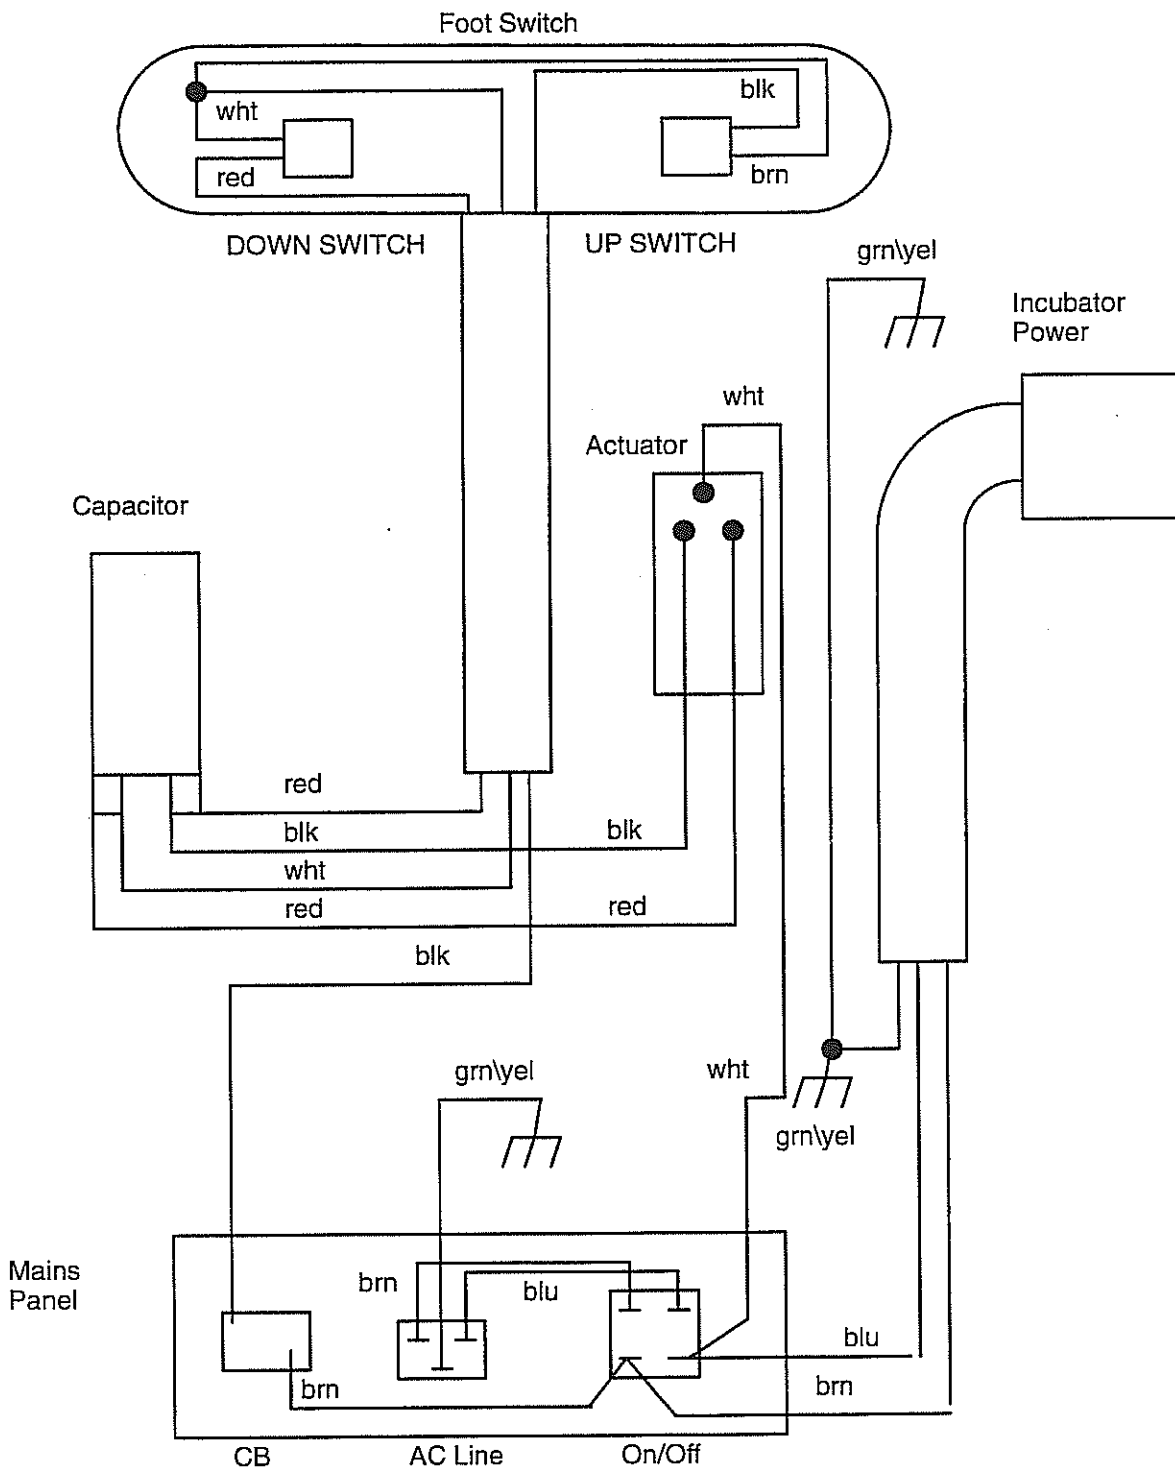
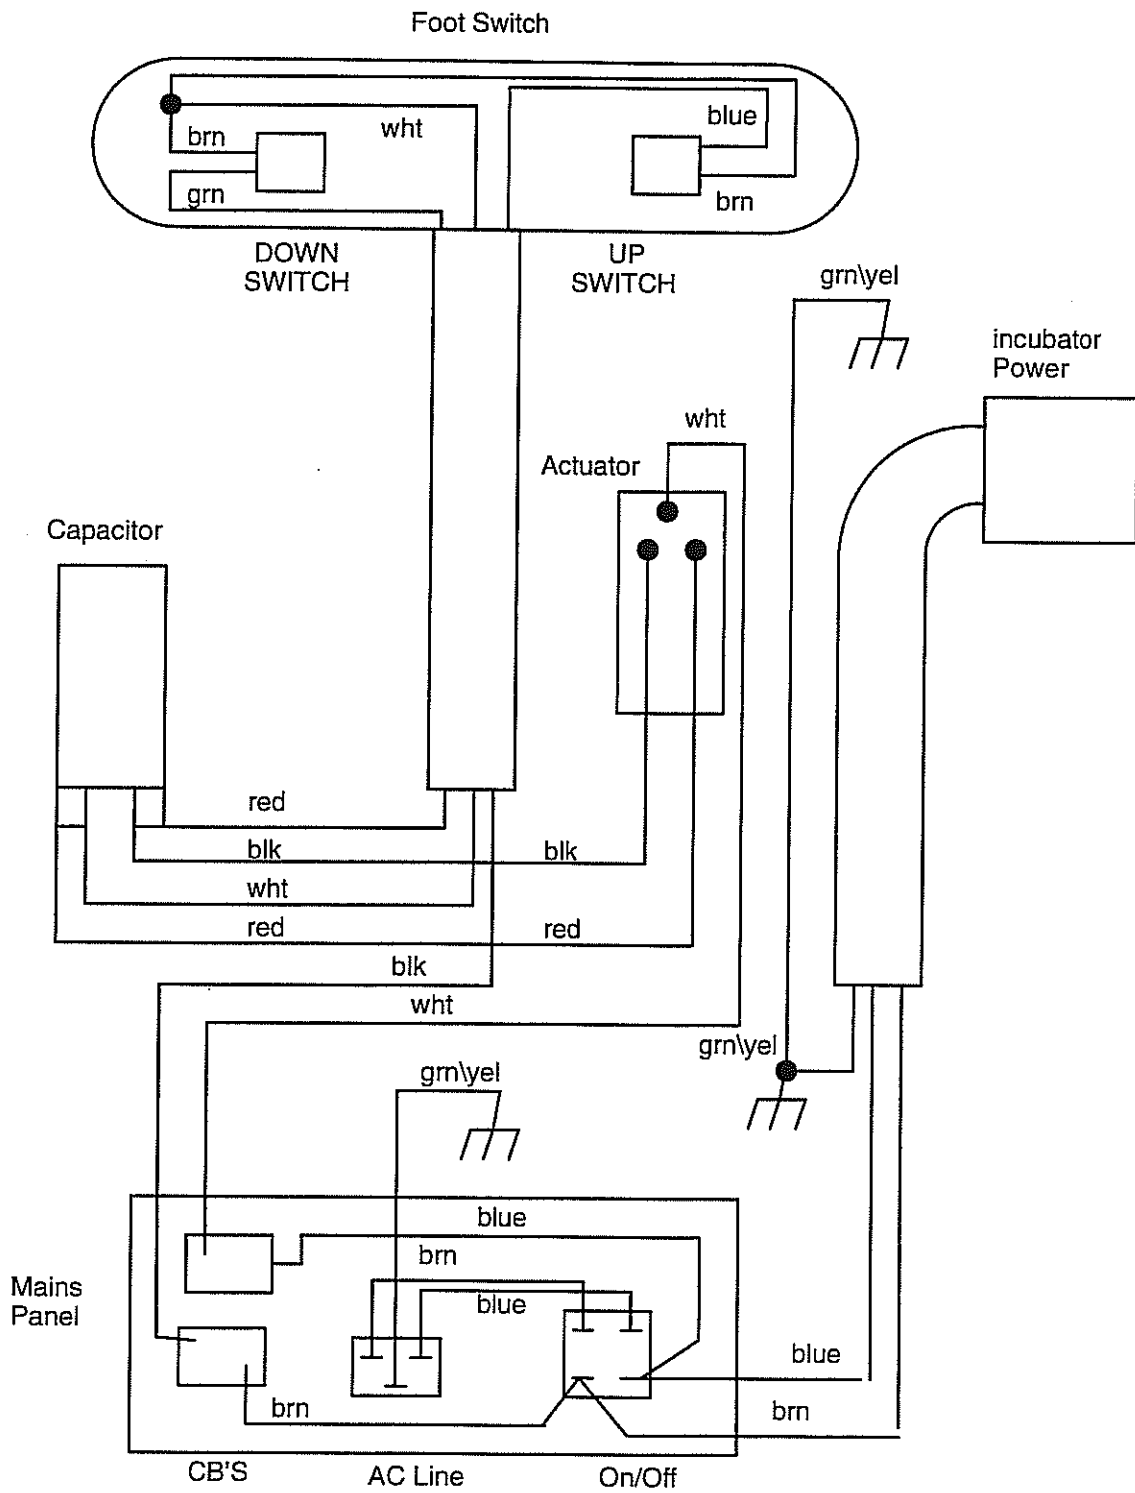

FIGURE 5.4 VHA STAND WIRING DIAGRAM-120V UNITS
FIGURE 5.5 VHA STAND WIRING DIAGRAM—220/240V UNITS
5. Remove the Ground Lug and Cable Clamp (36) at the top of the post by removing the nuts (49).
6. Remove the Mains Panel (8). Disconnect the White Wire from the MAIN POWER Switch (refer to Figure 5.4 for 120V Units or Figure 5.5 for 220V/240V Units).
7. Disconnect the Blue Wire and Brown Wires of the Incubator Power Cord from the MAIN POWER Switch (refer to Figure 5.4 for 120V Units or Figure 5.5 for 220/240V Units).
2. Remove the Red and White wires from the Capacitor. Remove the Black wire coming from the Up/Down Switch wiring harness from Circuit Breaker on the Mains Panel (refer to Figure 5.4 for 120V Units or Figure 5.5 for 220V/240V Units).
3. Remove the four nuts (49) that hold the Switch Assembly to the Stand. Remove the Switch Assembly and wiring harness from the Stand.
2. Remove the two Red, one Blue and one Black wires from the capacitor (refer to Figure 5.4 for 120V Units or Figure 5.5 for 220V/240V Units).
3. Remove the nuts (49) and strap (7) holding the Capacitor (4) in place.